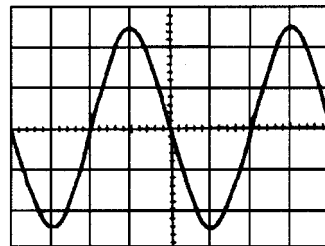

Figure A3.1
- 1 A conductor, 25 cm long is situated at right angles to a magnetic field. Determine the strength of the magnetic field if a current of 12 A in the conductor produces a force on it of 4.5 N. (3)
- 2 An electron in a television tube has a charge of $1.5 \times 10^{-19} \text{C}$ and travels at $3 \times 10^7 \text{m/s}$ perpendicular to a field of flux density $20 \mu\text{T}$. Calculate the force exerted on the electron in the field. (3)
- 3 A lorry is travelling at 100 km/h. Assuming the vertical component of the earth's magnetic field is $40 \mu\text{T}$ and the back axle of the lorry is 1.98 m, find the e.m.f. generated in the axle due to motion. (5)
- 4 An e.m.f. of 2.5 kV is induced in a coil when a current of 2 A collapses to zero in 5 ms. Calculate the inductance of the coil. (4)
- 5 Two coils, P and Q , have a mutual inductance of 100 mH. If a current of 3 A in coil P is reversed in 20 ms, determine (a) the average e.m.f. induced in coil Q , and (b) the flux change linked with coil Q if it wound with 200 turns. (5)
- 6 A moving coil instrument gives a f.s.d. when the current is 50 mA and has a resistance of 40Ω . Determine the value of resistance required to enable the instrument to be used (a) as a 0–5 A ammeter, and (b) as a 0–200 V voltmeter. State the mode of connection in each case. (6)
- 7 An amplifier has a gain of 20 dB. Its input power is 5 mW. Calculate its output power. (3)
- 8 A sinusoidal voltage trace displayed on a c.r.o. is shown in Figure A3.1; the 'time/cm' switch is